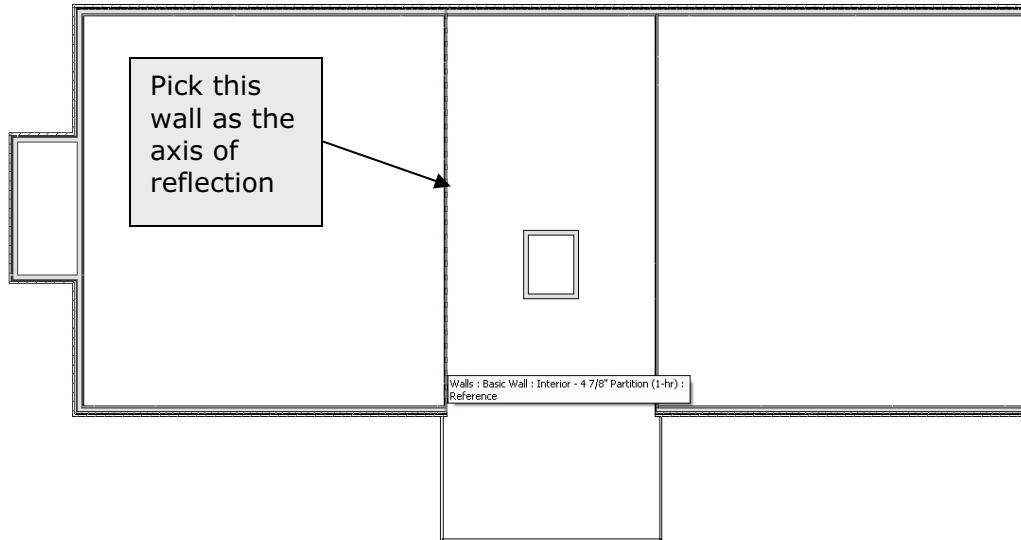

Figure 3-3.9 Mirror west stair – step 1
(Figure 3-3.9)
24. Select the **Mirror** tool and then select the atrium wall identified in Figure 3-3.9.